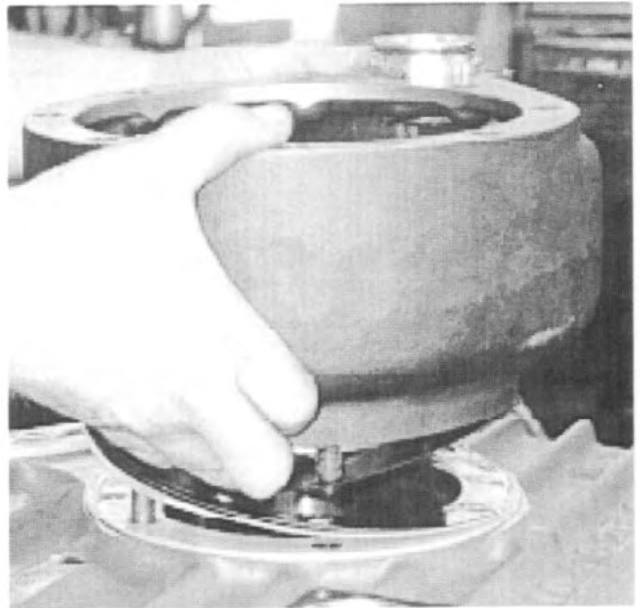

Fig. 30
27. Remove the front declutch housing, and, if required, any other gaskets, shims, caps, carriers or bearing cups. *See Fig. 30.*